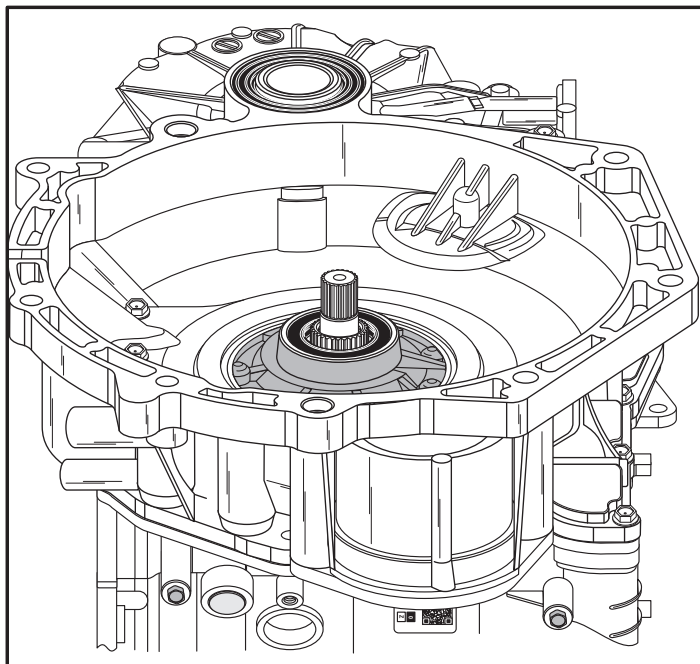

Figure 64
31. Position transaxle so that converter housing is facing up, as shown in Figure 64.